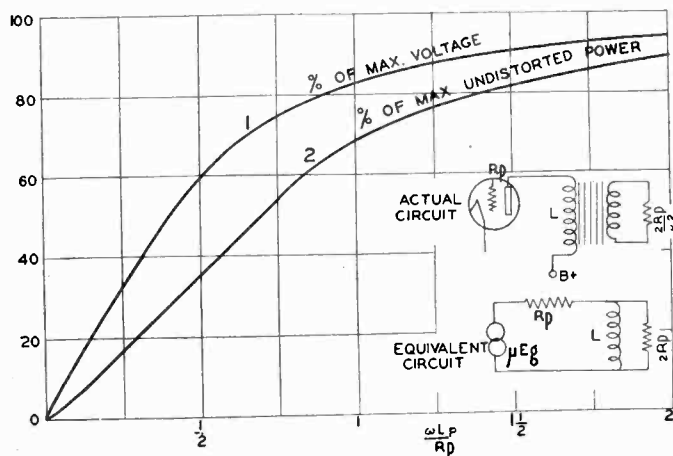

Fig. 6—Effect of primary inductance on power output of tube
Using equation (5) the per cent of maximum voltage can be found for various values of $\omega L_p/R_p$ and the results plotted as in Curve 1, Fig. 6. Since the power delivered to the load is proportional to the square of the voltage, the per cent of maximum undistorted power is given by the square of the ordinates of Curve 1, and is shown by Curve 2, Fig. 6.
The value of L_p to choose for a given tube depends upon the degree of uniformity desired in the low-frequency range. Curve 2 of Fig. 6 indicates that at the frequency at which the primary reactance equals the load impedance ($\omega L_p/R_p = 2$), the loss in power is only 12 per cent, and that at the frequency where L_p equals the tube impedance ($\omega L_p/R_p = 1$) the power